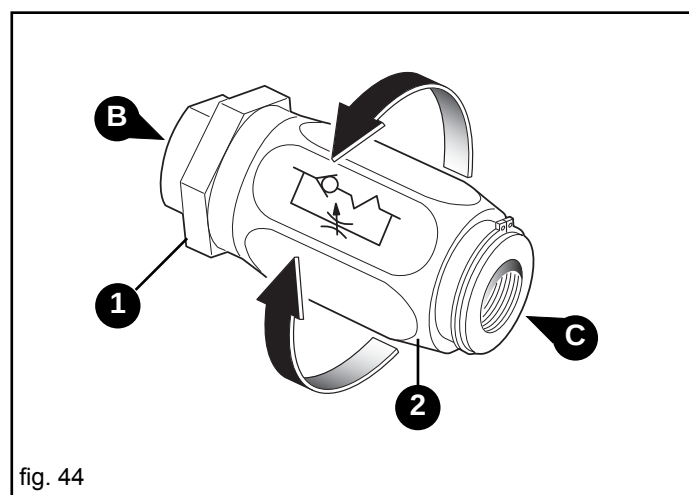

fig. 44
The hydraulic systems provided come equipped with one-way flow regulators (Fig. 44) which allow for the regulation of the quantity of oil during opening or closing, depending on how the regulators have been installed:
- Flow from **B** to **C**, free (Fig. 44);
- Flow from **C** to **B**, choked (regulated) (Fig. 44).